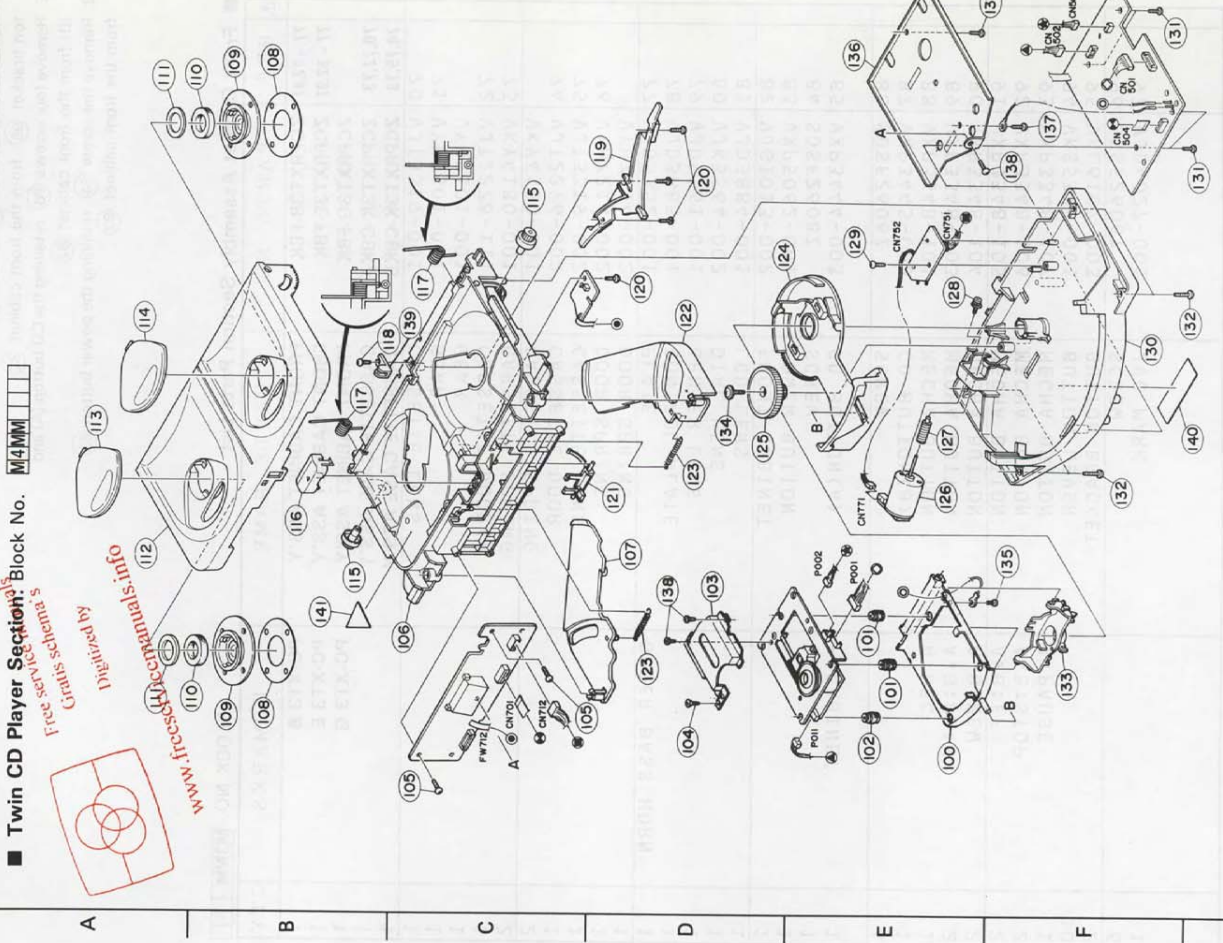

Fig. 7-11
■ CD Door Assembly (Fig. 7-11)
1. Remove together the fulcrum of CD door (112) from the fulcrum of CD case (106).
2. Take out together gears (115) from the CD case (106).
3. Take out together CD door spring (117).
4. Pull out the CD door (112) from the CD case (106).
1. At the time of reassembly, insert the longer CD door spring (117) at first, and hook the shorter spring on the CD case side after mounting the CD door (112) on the supporting point of the CD case (106) as indicated in the diagram.
2. With a cotton swab or other applicator, coat a small amount of grease (G501) over the portion of the CD door spring (117) which will be rubbed.
■ CD Operation/Display P.C. Board (Fig. 7-11)
■ CD Case (Fig. 7-11)
1. Remove three screws (120) retaining the rail (119) from the CD case (106).
2. Remove the both spring (123) for shutter (107), (122) from the CD case (106).
3. Pull out the both shutter (107), (122) from the CD case (106).
4. Pull out the CD eject button (116) and the lock arm (121) from the CD case (106).
1. When the CD player mechanism is reassembled with the sub chassis (100), be sure to arrange the insulator (grey) (101) and insulator (black) (102) correctly without mistake in compliance with the diagram.
■ CD Player Mechanism (Fig. 7-11, 7-12)
1. Remove four screws (131) retaining the CD control P.C. Board from the main chassis (130).
2. Remove four screws (132) retaining the main chassis (130) from the CD case (106).
4. Remove the CD player mechanism assembly from the main chassis (130).